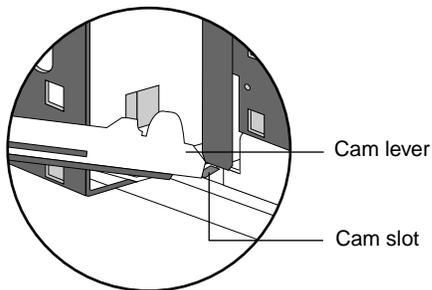

Figure 39. Cam lever engaging in cam slot
5. Push the drawer handle up so that the cam lever engages the cam slots in the HDDA chassis (Figure 39).